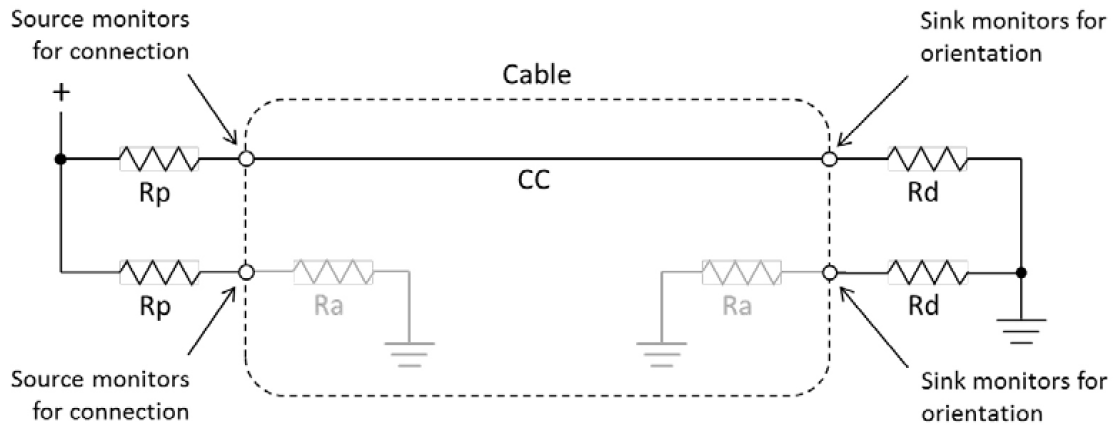

Figure 3. CC logic pull-up/pull-down termination.
1. Illustrated in **Figure 3**, cable detection occurs when one of the two CC lines is pulled down. A DFP will have both of its CC pins pulled-up with resistors R_p and a UFP will have both of its CC pins pulled-down with resistor R_d [1]. Once a DFP detects one of its CC lines being pulled down, the DFP will know that a connection has been made.
Lastly, the V_{CONN} switch is optional in many cases. V_{CONN} is used to power passive e-marked or active cables by switching 5 V onto the unused CC line (see Appendix). Note that electronically-marked cables are cables that support USB PD communication and provide a method for determining the cable characteristics. **Figure 3** shows that one CC line in the Type-C cable connects R_p to R_d , while the other is left floating (passive cable) or pulled down to ground with R_a (passive e-marked or active cable). V_{CONN} is required for all applications that support USB 3.1 speeds or power delivery higher than 3 A [4]. The V_{CONN} switch is also required if you want to support active cables, such as longer distance cables that require signal conditioning such as with a redriver or retimer.